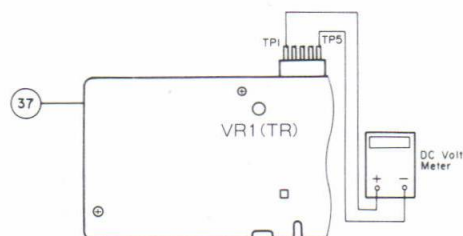

Fig. 21
1. Follow disassembly procedure (B) to remove the Bottom (14).
2. Insert the test connector into the 5P Plug (CN4) of the Control PWB Ass'y (37), and connect a voltmeter (DC) between TP1 and TP5 on the test connector. (Figure 21)